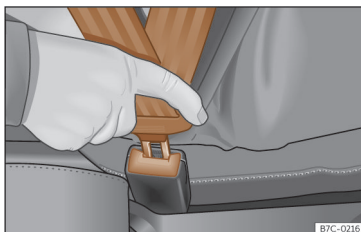

Fig. 23 Insert the latch plate of the seat belt into the buckle.
- Insert the buckle plate in the buckle of the correct seat >>> **Fig. 23**.